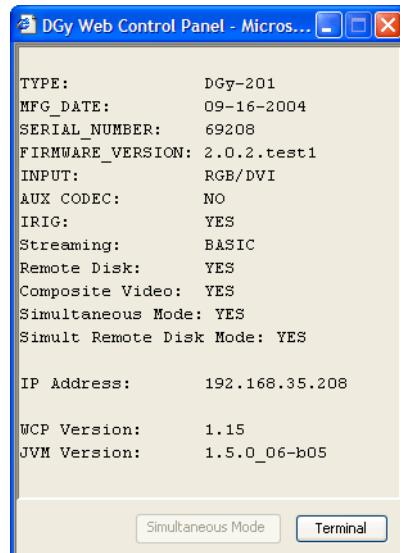

Figure 3-23. DGy Configuration Page (WCP)
- ~ Locate the *DGy 201* Configuration Page that opens automatically when the *DGy 201* WCP is launched (Figure 3-23)